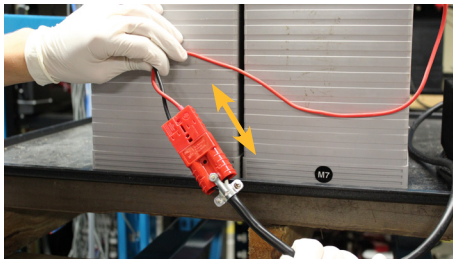

Figure 1: Disconnect DC power
12. Allow the charger to power down, then disconnect DC power. (See Figure 1)